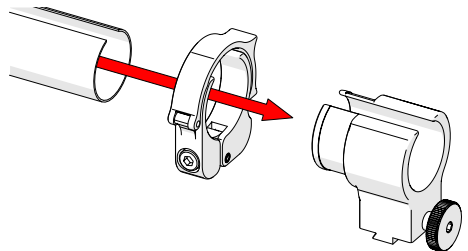

Fig. 59 - Slide tube around mount
2. Slide the clamp around the tube first, and then slide the tube around the outside of the cable management dovetail mount (Fig. 59). Align the zipper opening and the cable management dovetail mount opening.